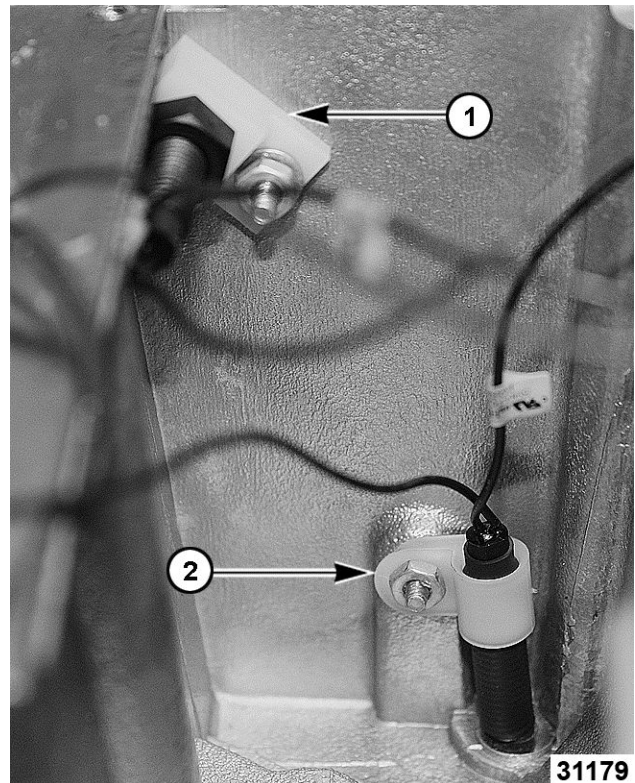

Fig. 27
- A. Install new reed switch assembly using one bracket (1, Fig. 27) and one p-clamp (2, Fig. 27) in the orientation shown. Connect switch wires in series as indicated on wire labels.